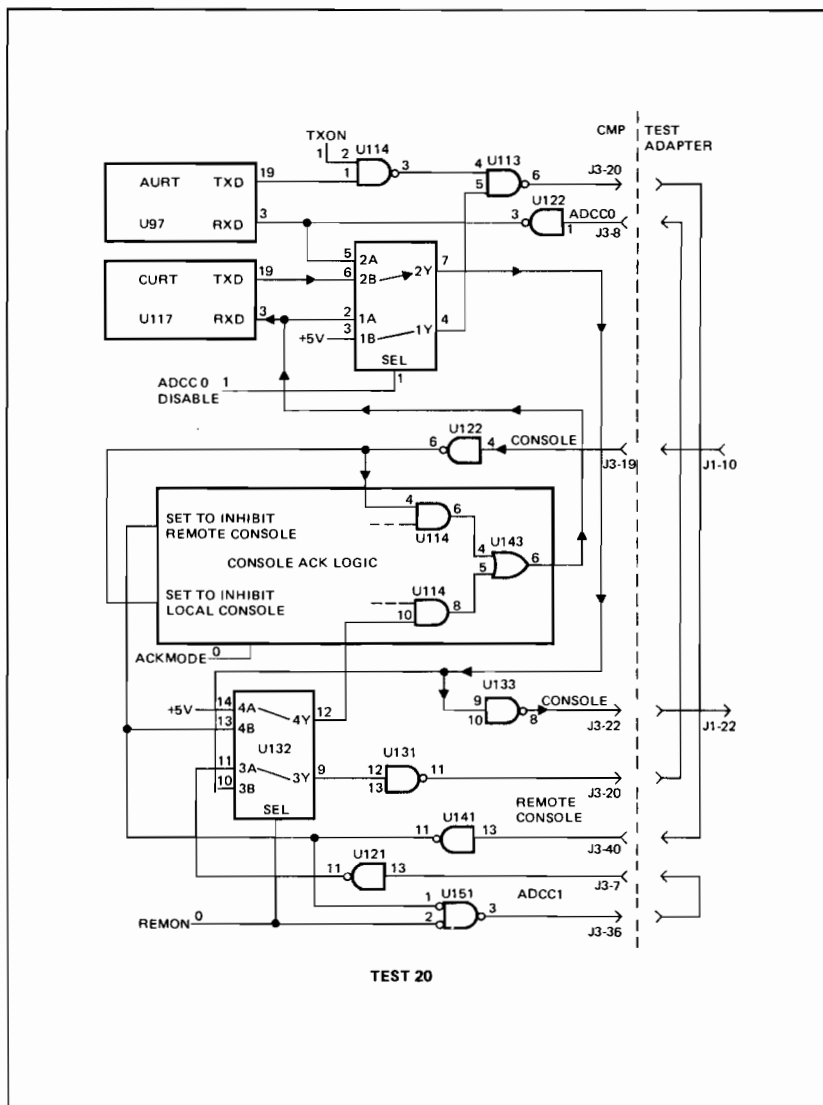

Figure 3-9. Data Comm Test Step 20
This test is divided into two basic sections. Steps 1-16 check RTS, DTR, REMON, and SPAREXMT outputs and the DSR, CTS, CD and SPAREREC inputs. Figure 3-8 illustrates how the control signals are looped from output to input. Steps 20-28 check the RS-232C serial data paths. (See Figure 3-9 through 3-17.)
- 20 See Figure 3-9.